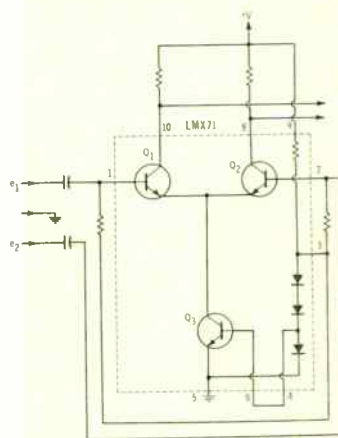
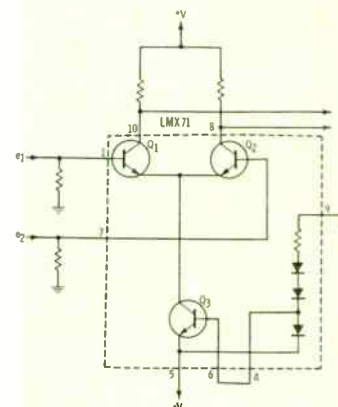

Fig. 2b AC coupled, single supply difference amplifier.
Fig. 2c DC coupled, dual supplies difference amplifier.
Two circuit examples are shown in Figures 2b and 2c. Circuit 2b is an AC coupled difference amplifier using single supply biasing. Figure 2c is a direct coupled, split supply amplifier. Direct coupling and the dual supplies allows the input terminals to operate around DC ground potential. In this amplifier, the negative common mode range is extended to within two diode drops of the negative supply, because current source element Q3 can operate at very low collector-emitter potentials ($0 V_{cb}$) (6) (12). With Q3 at 0